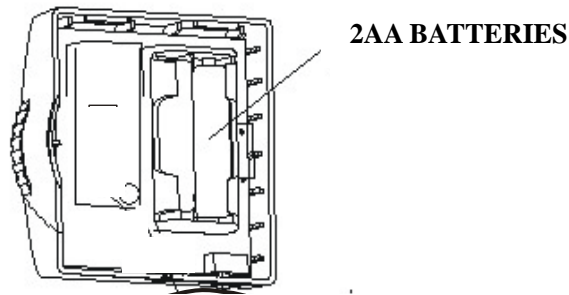

Figure 2
2. Install two fresh “AA” alkaline batteries in battery compartment. Be sure to match positive (+) ends of batteries with positive (+) battery terminals in the battery compartment. See figure 2. (Note: the product long time not use it, please detach the battery, prevent the battery fluid leakage, damaged products.)